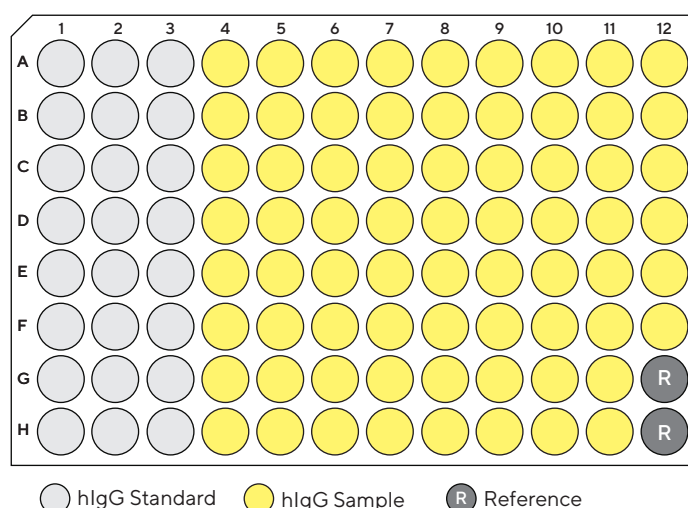

Figure 5. Example plate layout for a routine quantitation assay run on a 96-well microplate.
- Set up a Basic Quantitation assay using the parameters described previously in the optimization experiments. See Figure 5 for an example assay set up. Please note that standards can be run across the plate and not all at the beginning.